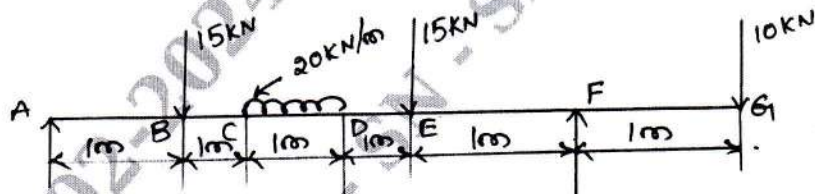

Fig.Q5(b)
- b. Draw shear force and bending moment diagram for the beam shown in Fig.Q5(b).
- b. Find the deflection at C in the beam loaded as shown in Fig.Q5(b). Take EI = 10,000kN-m².